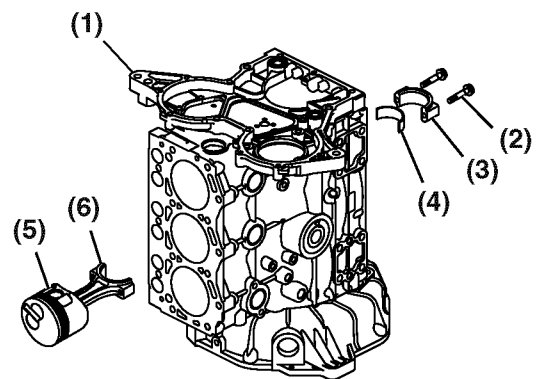

Figure 5-37
1. Remove the connecting rod bolts (**Figure 5-37, (2)**).
2. Remove the connecting rod end cap (**Figure 5-37, (3)**) and bearing insert (**Figure 5-37, (4)**).
3. Push out to remove the connecting rod (**Figure 5-37, (6)**) and piston (**Figure 5-37, (5)**). Repeat for each connecting rod assembly.